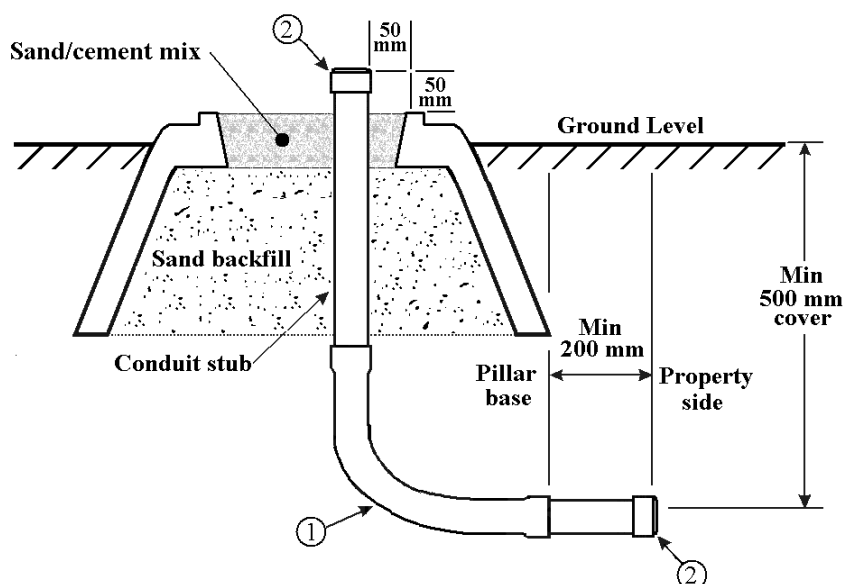

Figure 26.3 – Conduit Stub Details
10. Refer to Figure 26.3 for service conduit stub details (if applicable).
12. A conduit stub shall be installed in accordance with Figure 26.3 for each cable that has not been initially laid prior to the installation of the pillar noting the following:
13. As the distributor cables hold the link panel in place, all three (3) distributor cables must be installed during the construction of this pillar.